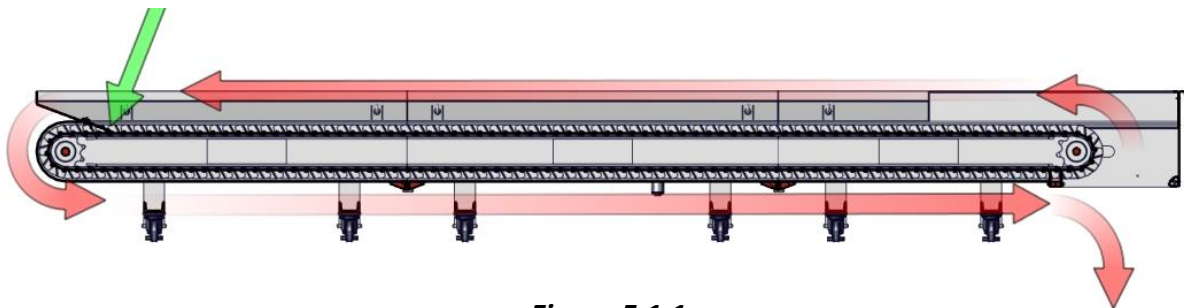

Figure 5.1.1
- Operate the conveyor in the reverse direction as shown in the picture (Figure 5.1.1).